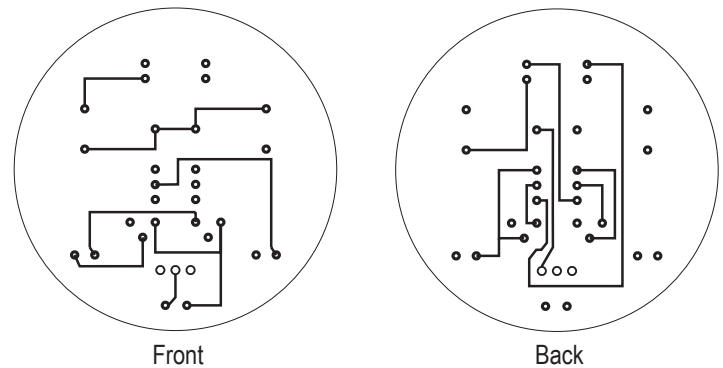

Figure 3 – Both sides of the circuit board have traces, copper strips that carry electricity from one component to another creating a circuit.
2. The circuit has one side with strips of shiny metal called traces. The other side has traces and a picture of a robot. Place the components through the picture side of the circuit board (Figure 3).